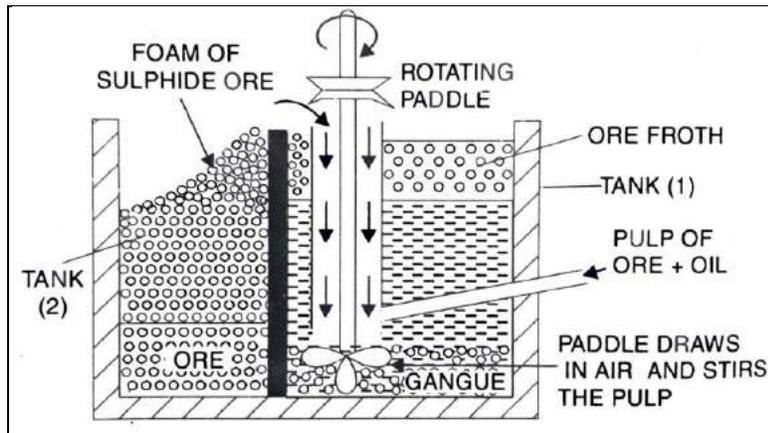

Fig. 7.2 Froth floatation method
- (ii) **Froth Floatation Method:** - This method is suitable for the concentration of Sulphide Ores only. In this method, two interconnected tanks are used (Fig. 7.2). In one of the tanks, a mixture of ore, oil (pine oil), water and a little quantity of acid is agitated strongly by blowing air through it. Due to the preferential wetting of the sulphide ores by oil than by water, a layer of oil is covered over the surface of sulphide ores. These sulphide ores become lighter and float over the surface of the mixture, which are carried out into the second container along with the foam formed due to agitation.